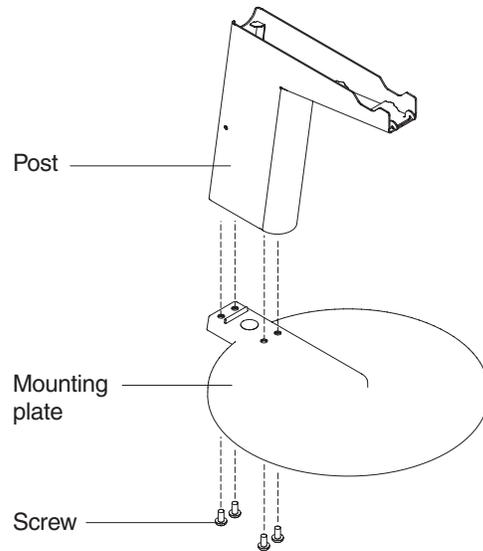

Figure 32. Mounting plate for CRT that is mounted on short post
5. Remove the four screws that attach the mounting plate to the bottom of the post mount (see Figure 32 on page 31).